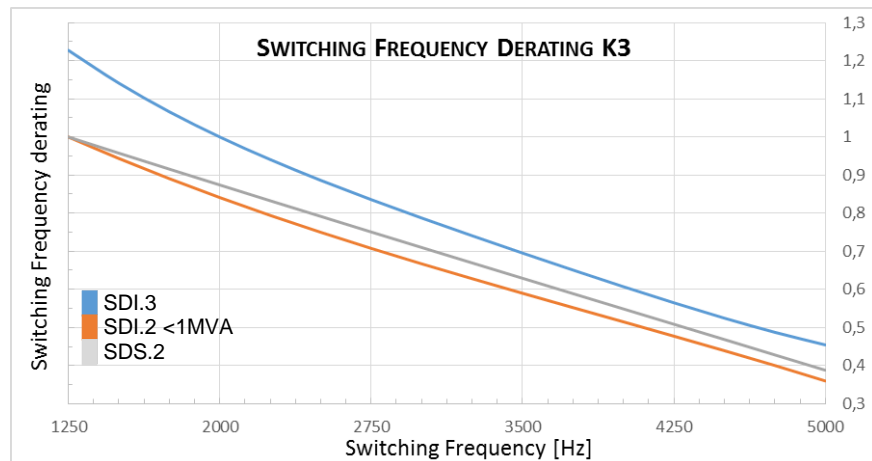
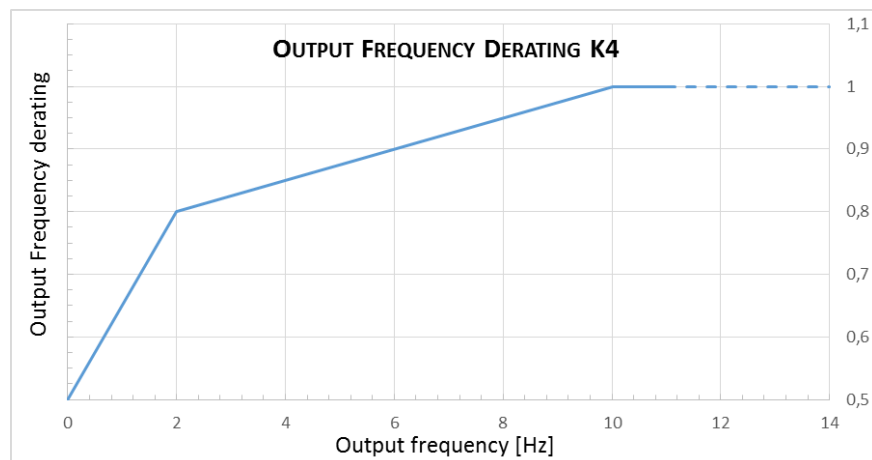

Fig. 2-12: Switching Frequency derating example for SDI.2 and SDI.3
Fig. 2-13: Output Frequency derating coefficient for all sizes
- Switching Frequency (K3) Fig. 2-12
- Output Frequency (K4) Fig. 2-13
While users configure the drive, they have to select the switching frequency: it depends on the size and frame. Automatically the control system will apply all frequency derating. However, Fig. 2-12 and Fig. 2-13 represent these derating to let the users know the tendency of this coefficient. To know exactly the derating applied, users can use the rating tables or, better, change the switching frequency into the drive configuration and the real rated current; this way is the best mainly for switching frequency up to 2500Hz. To know all the derating at the default switching frequency, refer to Tab. 2-7.